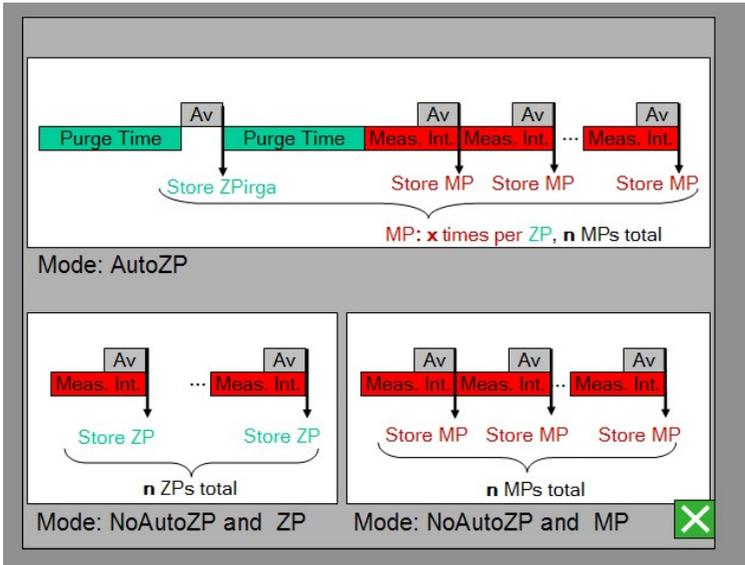

Fig. 33: Illustration of sampling sequences (fluorescence module not enabled).
There are several optional sequences. In the simplest sequence only measuring points (MP) are taken, but this can be extended by additionally taking zero points (ZP) and also yield measurements if a fluorescence module is connected. It is also possible to use the automatic sampling sequence to only store zero points ZPs. The different sampling sequences are illustrated in Fig. 32 and Fig. 33. Fig. 32 shows the standard view with fluorescence module, whereas Fig. 33 shows the extended view without fluorescence module.